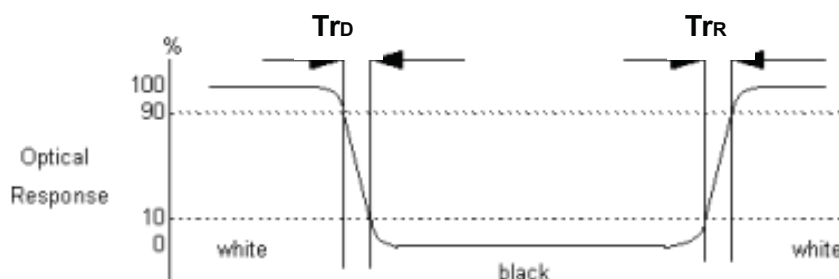

Fig.4-3 Response time
4. Response time is the time required for the display to transition from white(L255) to black(L0) (Decay Time,  $Tr_D = T_f$ ) and from black(L0) to white(L255) (Rise Time,  $Tr_R = Tr$ ). For additional information see Fig. 4-3.